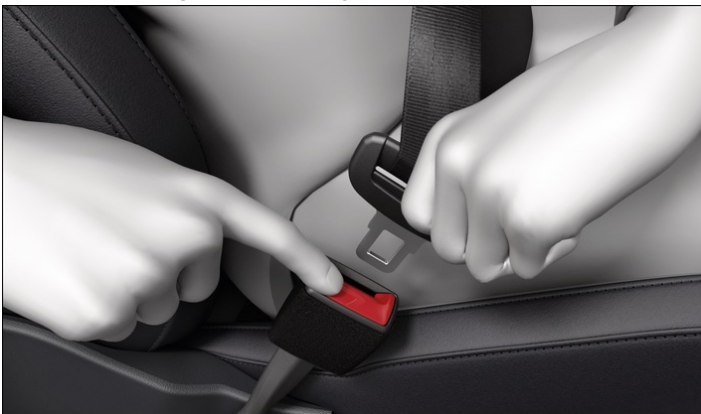

Fig. 2 Releasing the buckle tongue from the safety belt buckle.
1. Press the red button in the safety belt buckle → fig. 2.